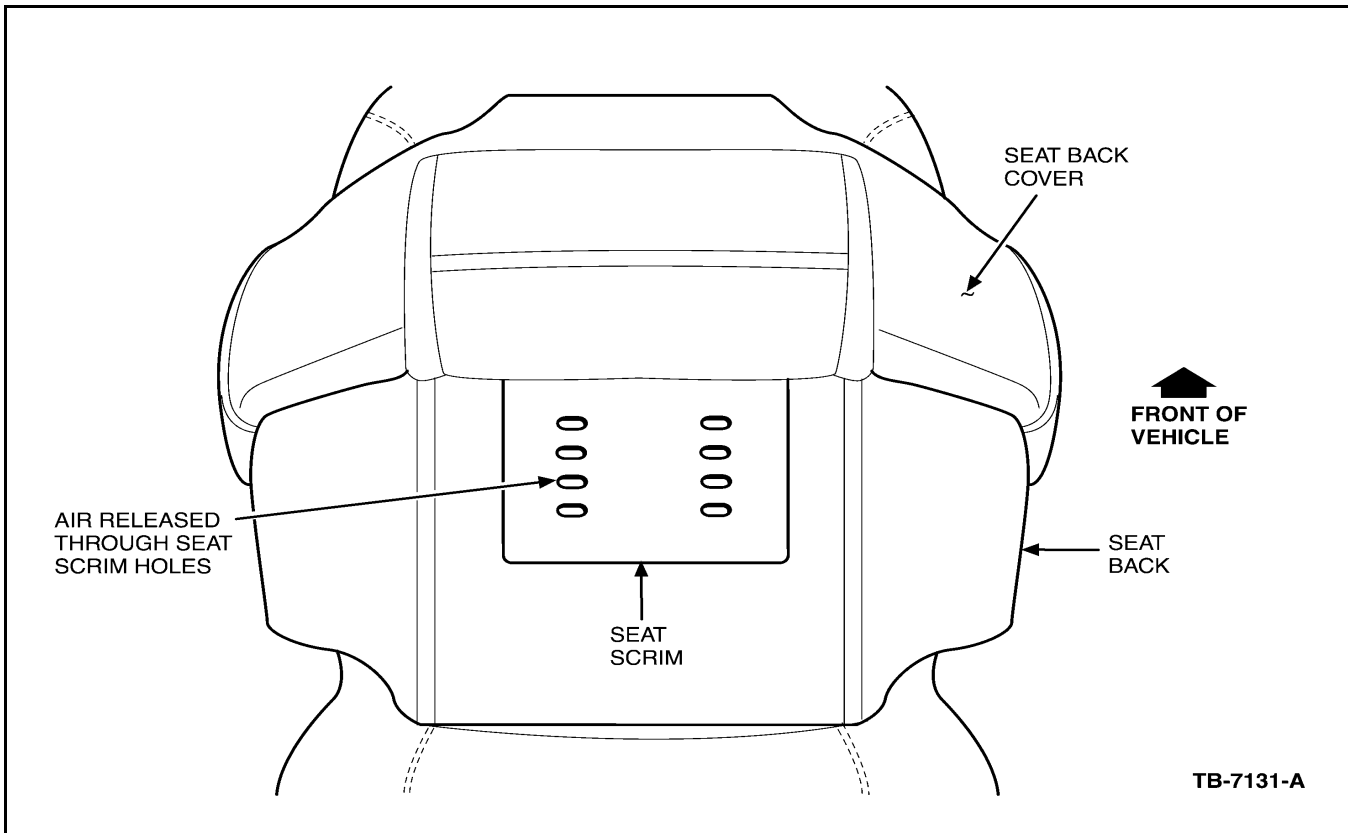

Figure 3 - Article 04-26-19
- Make sure that there are air channels in the seat backrest cushion. The channels are indentations in the foam under the seat scrim (see Figure 3). If channels do not exist in the cushion, the cushion is for a non-climate controlled seat and must be replaced with the correct part.